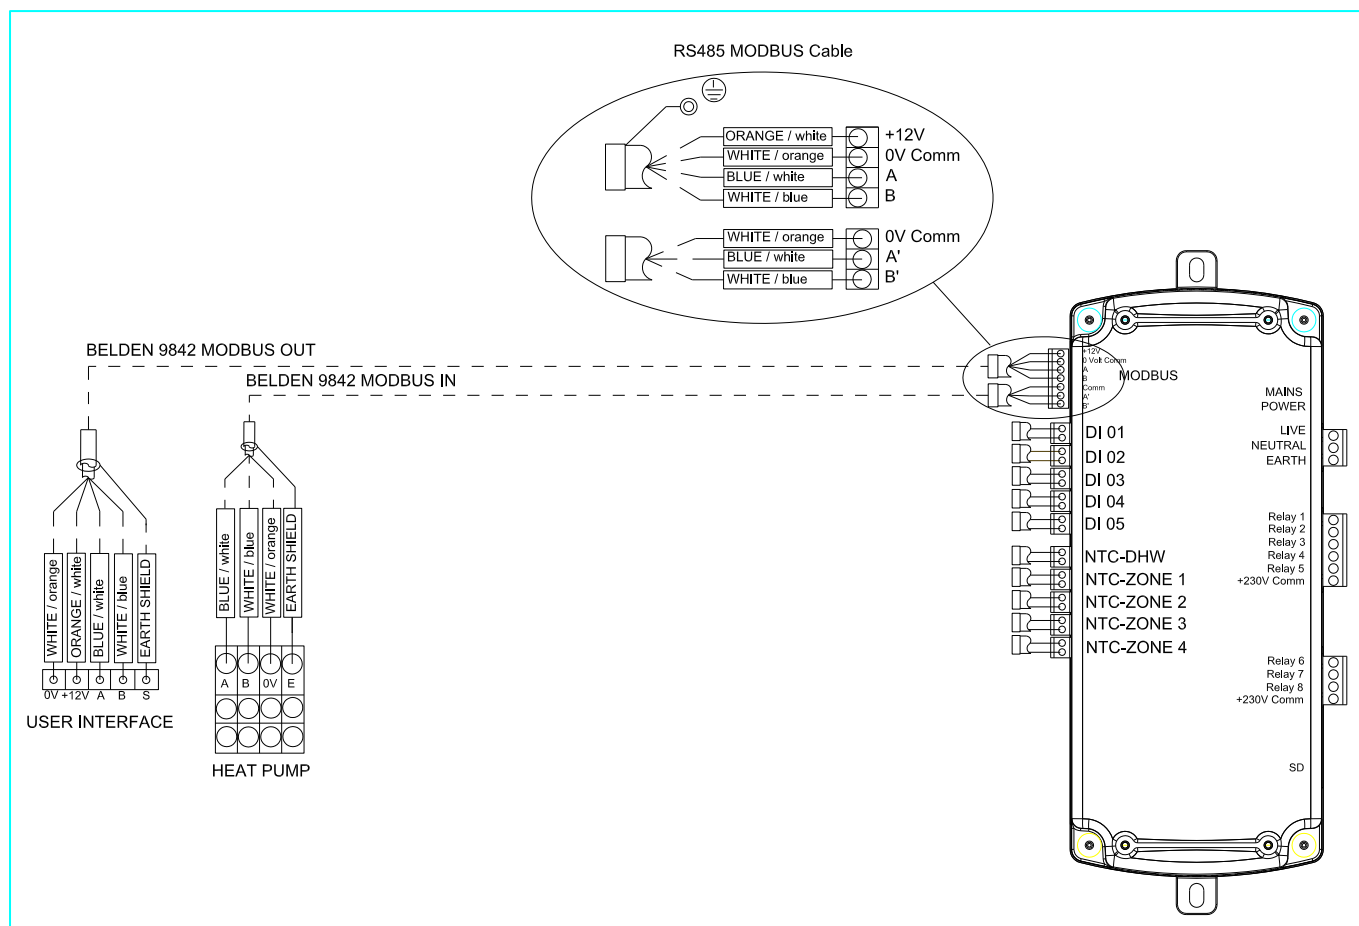

Figure 9: Modbus Communication Connections
- Modbus connection, 5.9.2. The communication cable between the cylinder and heat pump must be installed. See Figure 9.
Correct installation of the Modbus connections is critical for communication between the heat pump, UI and the cylinder. Figure 9 illustrates how these connections must be made. The modbus wire must be specified to BELDEN 9842. The maximum allowable network length is 100m.